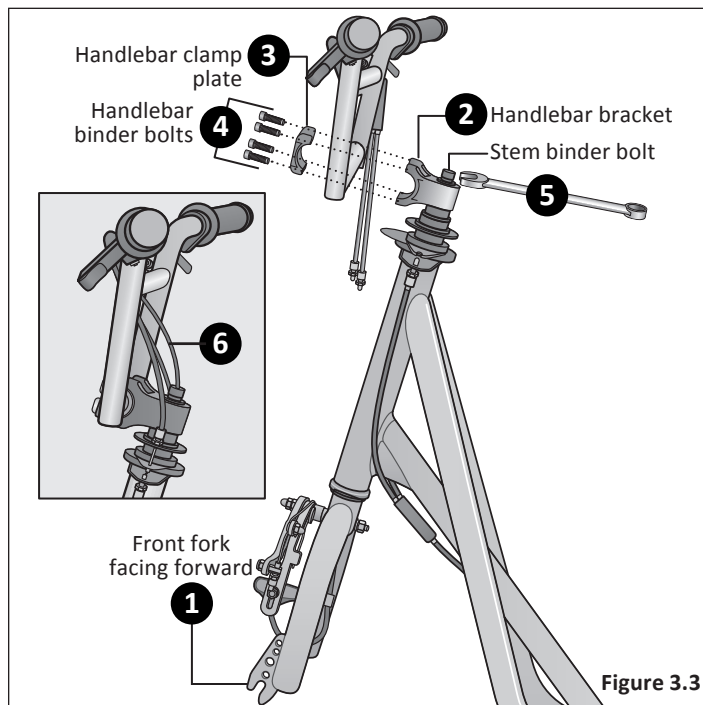

Figure 3.3
- 1 Turn the front fork to face forward. **Figure 3.3**